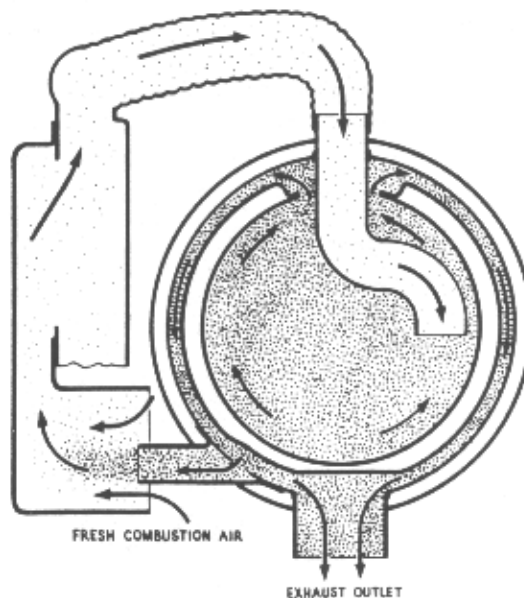

Figure 21—Flow System, Recirculating Exhaust (End View)
2. The heat exchanger of the Model 978-M-R has an auxiliary exhaust outlet which passes through the bottom of the heat exchanger at right angles to the regular outlet (Figure 21). The combustion air inlet is an oversize fit-